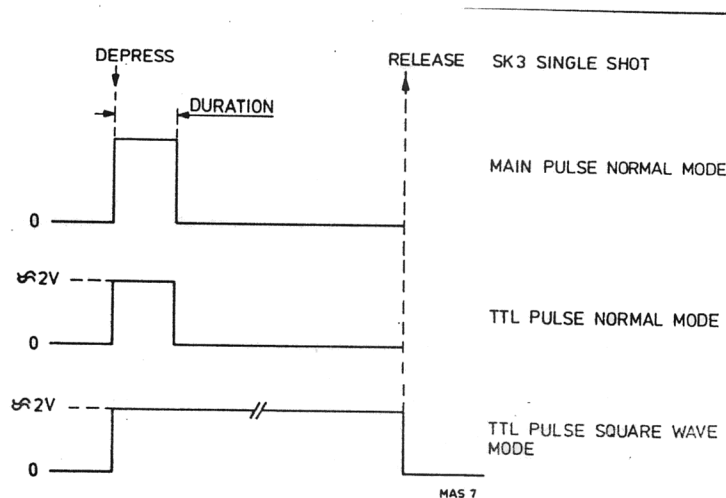

Fig. VI-4 Single shot PM 5705
- Note that one single pulse is now generated similar to fig. VI-4. Its duration, amplitude etc. are set with the front panel controls.
- Depress the SINGLE SHOT switch and observe a single pulse at TTL levels and set DURATION. Refer to fig. VI-4.
- Depress the SINGLE SHOT switch and note that the single pulse at TTL OUT remains as long as the switch is depressed. Set DURATION does not influence. Refer to fig. VI-4.